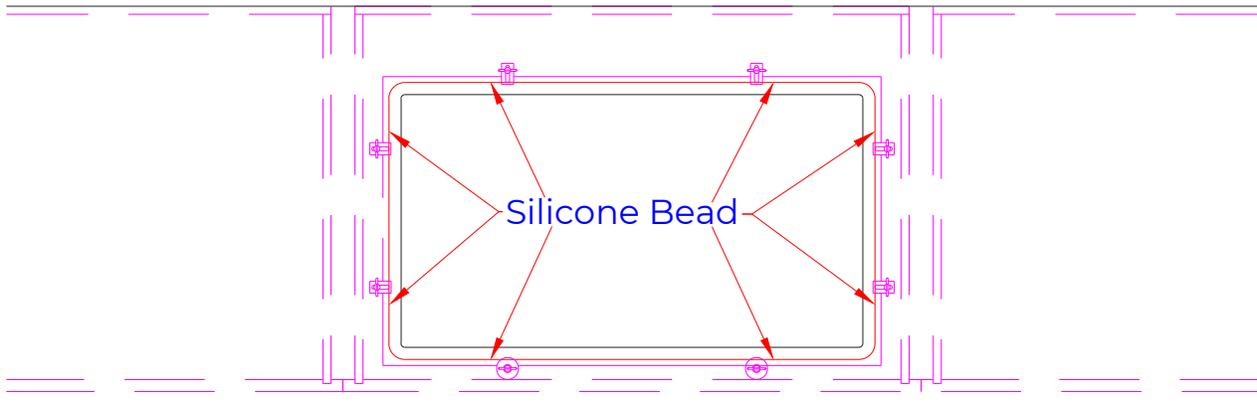

FIGURE 9
7. A constant bead of 50-year, 100% silicone will be applied around the entire perimeter of the undermount sink flange, and the silicone will be sandwiched between the Cambria and the undermount sink when installed. See Figure 9.